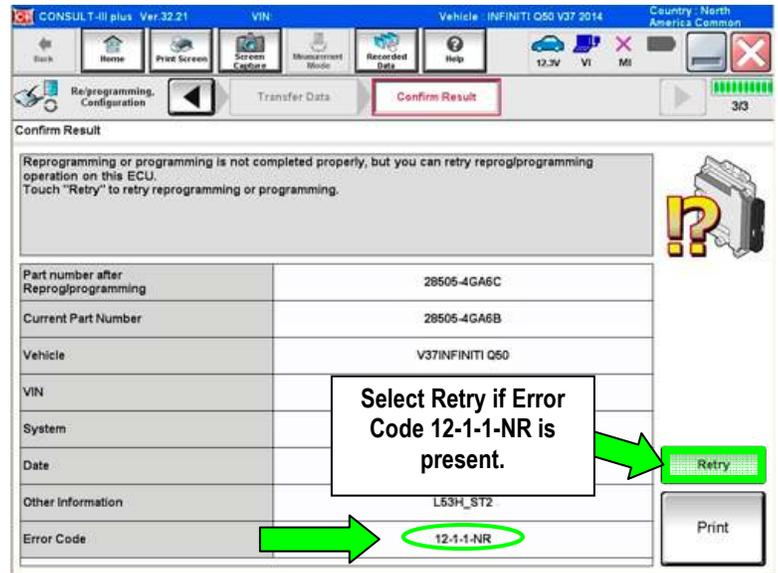

Figure 16
- If the progress bar freezes at 90% of a complete transfer to the VI and error code “12-1-1NR” is displayed (see Figure 16 on the next page), **turn the ignition OFF, then ON**, and then refer to Control Unit Recovery on the next page.
If reprogramming does not complete and the “!?” icon displays as shown in Figure 16: